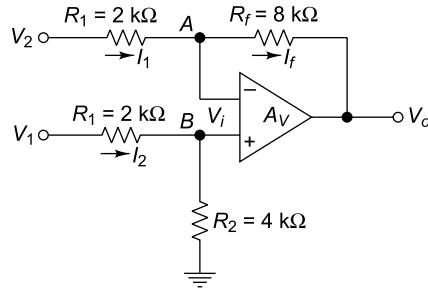

Fig. 5.23 Circuit of Ex. 5.12
5.12 Figure 5.23 shows an operational amplifier circuit. Determine the current I_f and the output voltage V_o when $V_1 = 4 \text{ V}$ and $V_2 = 5 \text{ V}$.